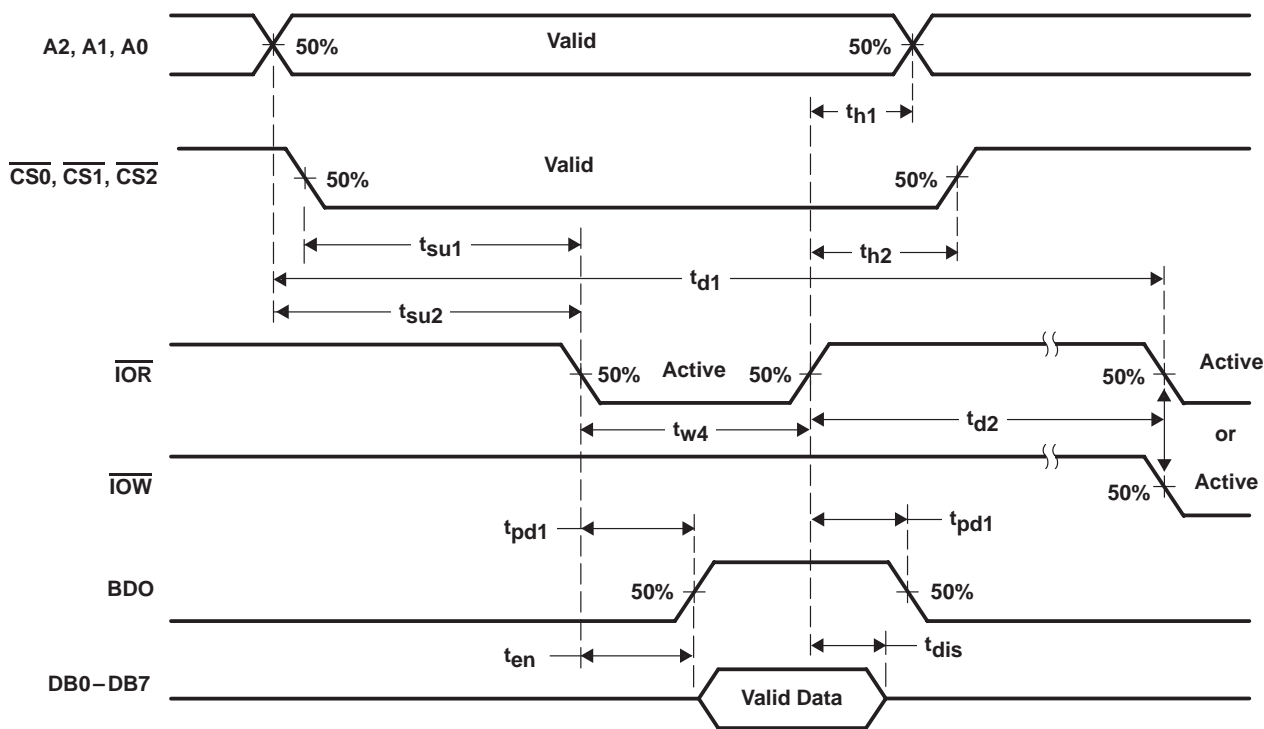

Figure 4. Read Cycle Timing Waveforms
**read cycle timing requirements over recommended ranges of operating free-air temperature and supply voltage (see Note 4 and Figure 4)**
**read cycle switching characteristics over recommended ranges of operating free-air temperature and supply voltage,  $C_L = 100$  pF (see Note 9 and Figure 4)**